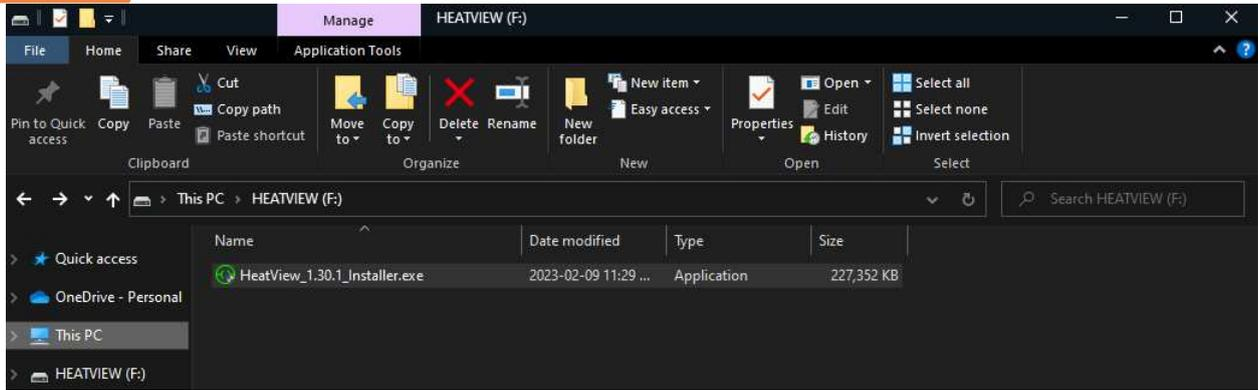

Figure 3: Installation – Locating your installer
1. In 'File Explorer', open the location that contains your "HEAT VIEW_X.X.X_installer.exe" file – either on the installation media provided to you with your purchase, or the folder you selected in the previous step – and double-click the installer to start the process. Refer to Figure 3 below for an example. Version 1.0.0 is shown in this manual as an example, however yours will appear as whichever version you are installing. This file will be in the location you selected when downloading the file.